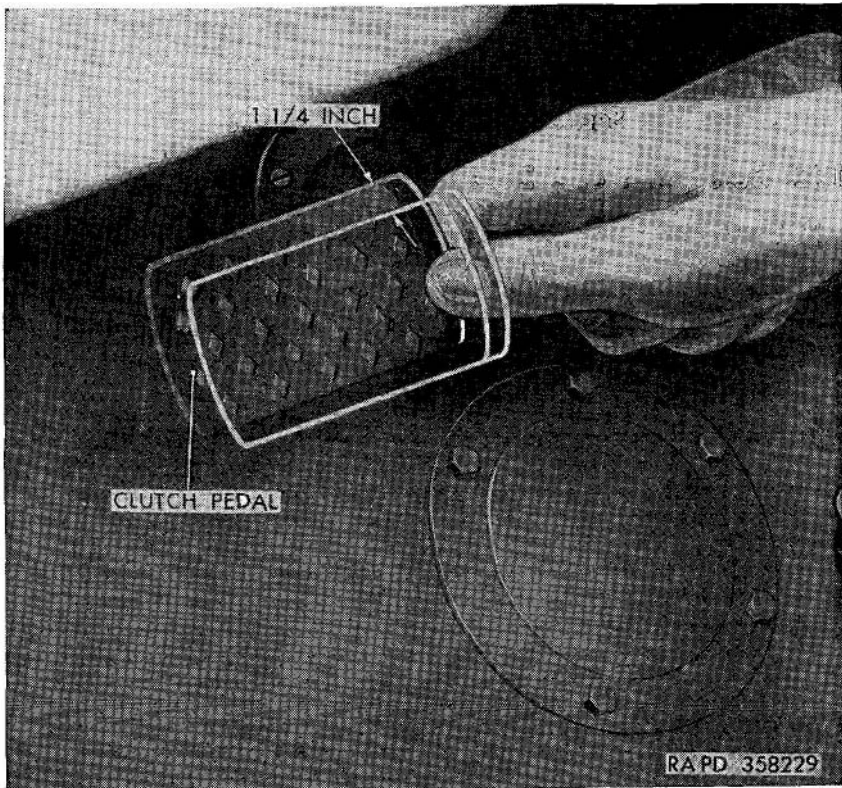

Figure 121. Clutch pedal free travel.
*a.* As the clutch facings wear, the free travel of the clutch pedal diminishes. Check the clutch pedal free travel (fig. 121) periodically to make certain the clutch pedal has at least 1 ¼ inches of free travel before the clutch starts to disengage.